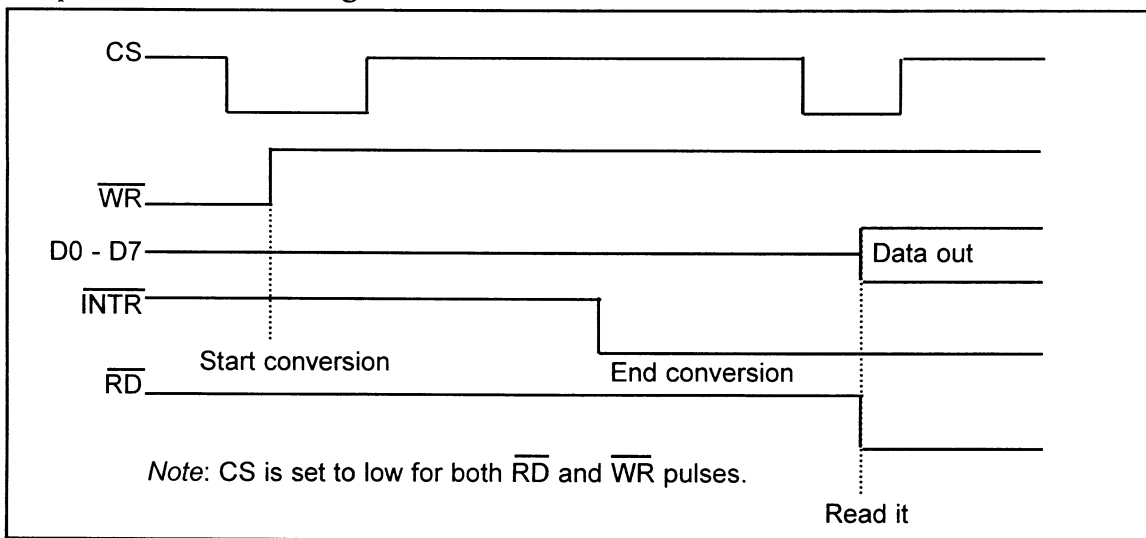

Figure 12-6. Read and Write Timing for ADC804
3. After the INTR has become low, we make CS = 0 and send a high-to-low pulse to the RD pin to get the data out of the ADC804 IC chip. The timing for this process is shown in Figure 12-6.